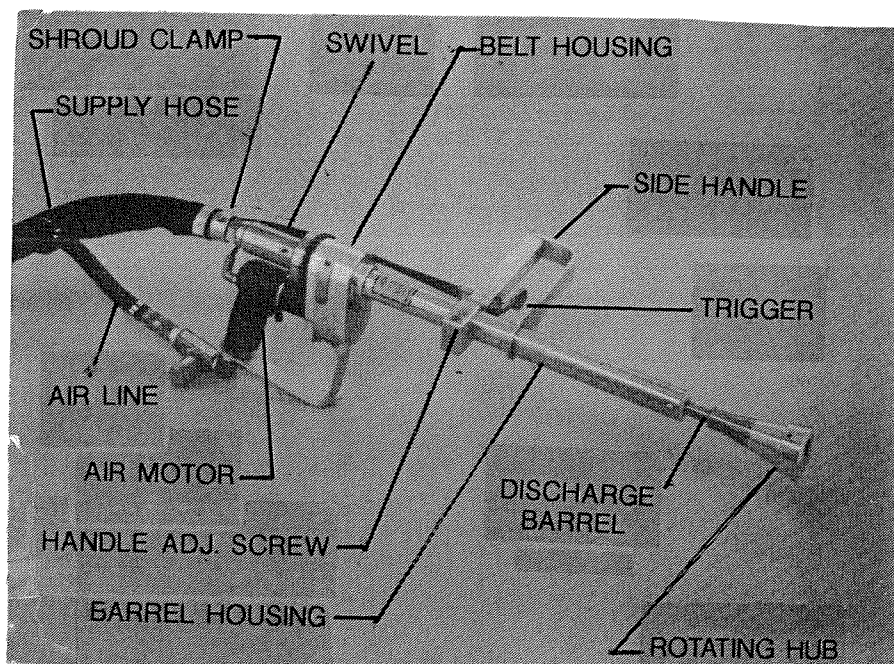

FIGURE 3-1
ALL THE VARIOUS METHODS OF HIGH PRESSURE WATER CLEANING OPERATIONS REQUIRE THAT TWO OPERATORS ARE ON THE JOB AT ALL TIMES. IT IS PARTICULARLY IMPORTANT WHEN OPERATING THE LANCE BECAUSE THE REACTION FORCE FROM THE LANCE CAN BE TIRING AFTER A WHILE. BECAUSE OF THIS, IT IS RECOMMENDED THAT THE OPERATORS TAKE TURNS QUITE OFTEN TO ALLOW SUFFICIENT REST AND TO AVOID FATIGUE. THE OPERATOR SHOULD BE FAMILIAR WITH THE LANCE AND ITS OPERATING PARTS, REFER TO FIGURE 3-1.
**NOTE: FIGURE 3-1 MAY NOT LOOK EXACTLY LIKE YOUR UNIT, IT IS FOR COMPONENT IDENTIFICATION PURPOSES ONLY.**
THE FORWARD GRIPING POSITION MAY BE LENGTHENED OR SHORTENED BY UNLOOSENING THE 1/4" SOCKET HEAD CAP SCREW AS SHOWN IN FIGURE 3-1 WITH A 3/16" ALLEN WRENCH. THIS WILL ALLOW THE FORWARD GRIP TO BE MOVED TO A COMFORTABLE POSITION FOR A PARTICULAR OPERATOR. AFTER THE DESIRED POSITION HAS BEEN ESTABLISHED, TIGHTEN THE SCREW WITH AN ALLEN WRENCH TO LOCK IT SECURELY IN THE NEW POSITION.